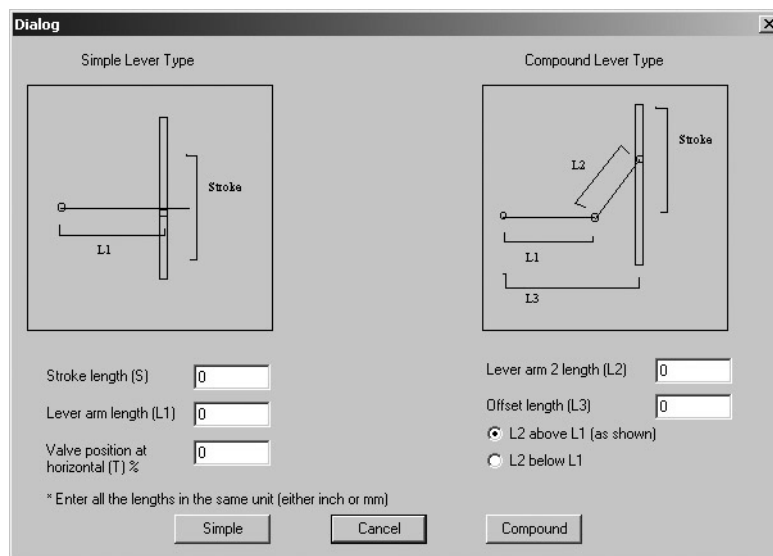

Figure 84 Custom Linearization Dialog
1. Right-click and select **Custom Linearization** and Figure 84 appears.